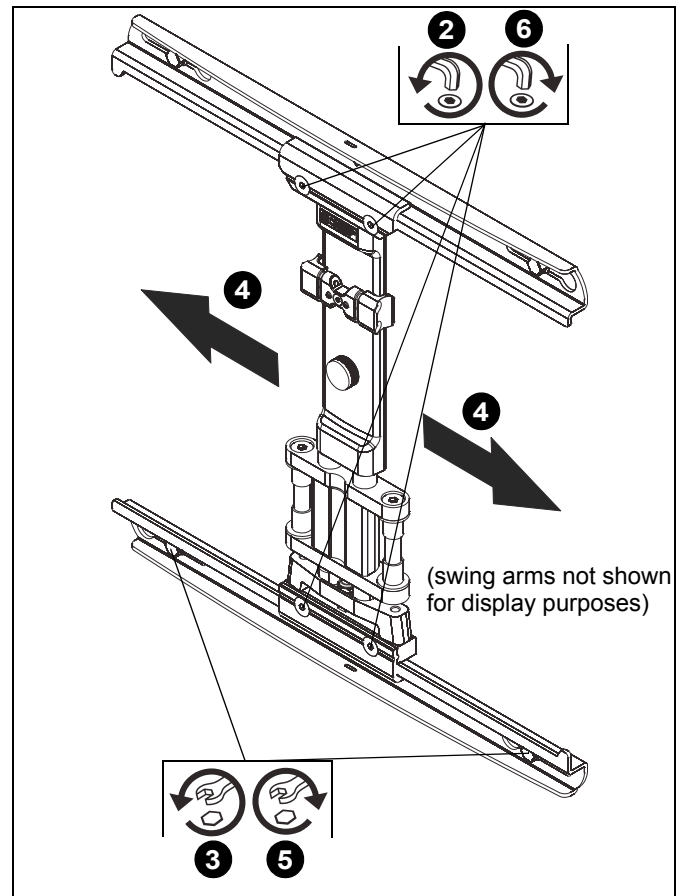

Figure 24
1. Remove wall rail covers (N) to expose lateral shift adjustment screws on wall rails.
2. Loosen four lateral shift adjustment screws. (See Figure 24)
3. Loosen two lower lag screws securing lower rail to the wall. (See Figure 24)
4. Slide mount laterally to desired mounting position. (See Figure 24)
5. Tighten two lower lag screws. (See Figure 24)
6. Tighten four lateral shift adjustment screws. (See Figure 24)
7. Reinstall wall rail covers (N).